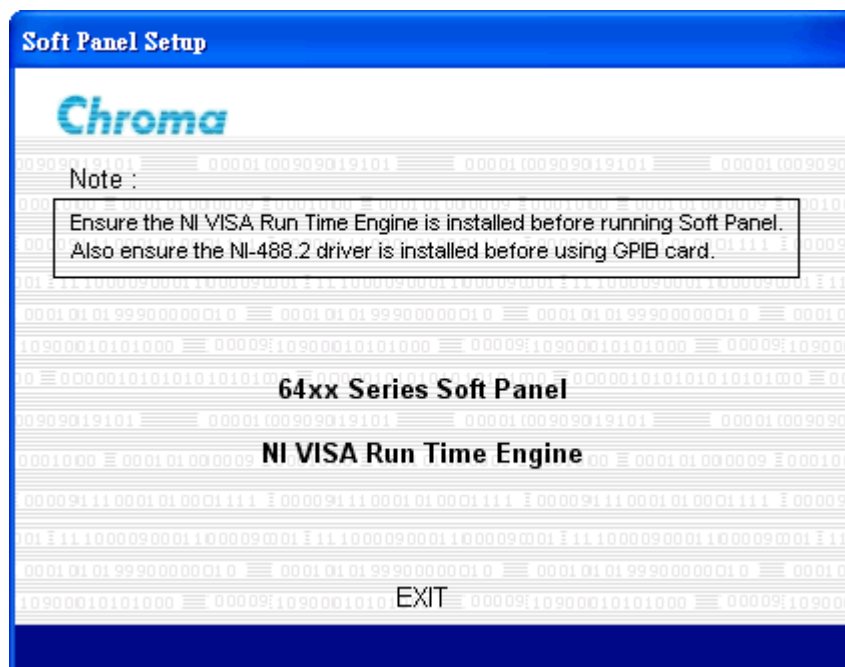
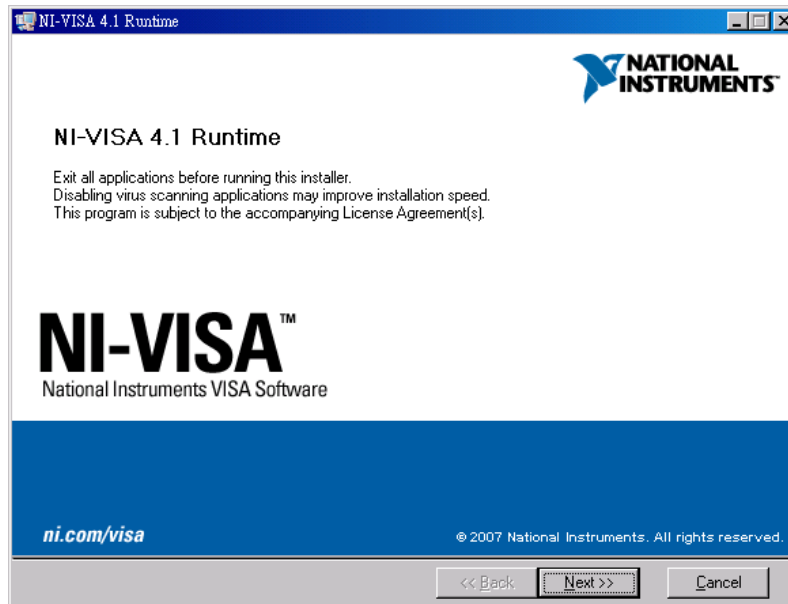

Figure 2-1 Setting Up the Soft Panel
Figure 2-6 Installation Window of NI VISA Ver. 4.1 Driver
Place in the CD and execute the `Setup.exe` file in it to start the installation. The installation main screen appears as Figure 2-1. Both “Chroma 64xx Soft Panel” and “NI VISA Run Time Engine” need to be installed to connect the hardware for testing.
1. To install NI VISA 4.1 driver, double-click **NI VISA Run Time Engine** in Figure 2-1 and after the program is initialized, it will prompt the installation as Figure 2-6 shows.